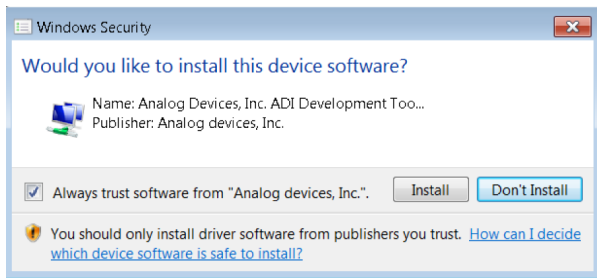
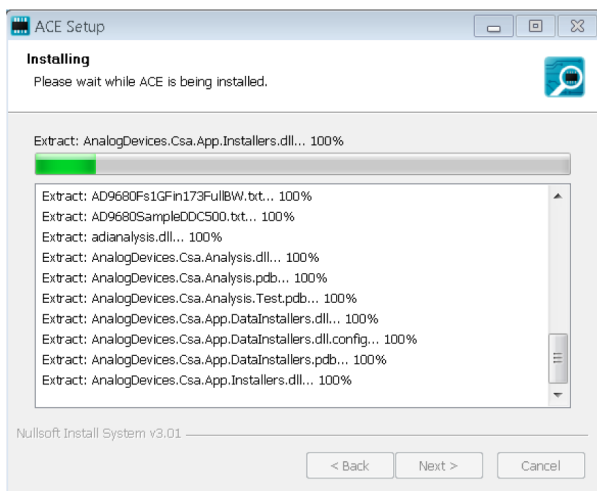

Figure 8. Evaluation Software Installation—Windows Security
Figure 9. Evaluation Software Installation—Installation in Progress
- The **Windows Security** window opens (see Figure 8). Click **Install**. Figure 9 shows the installation in progress. No action is required.